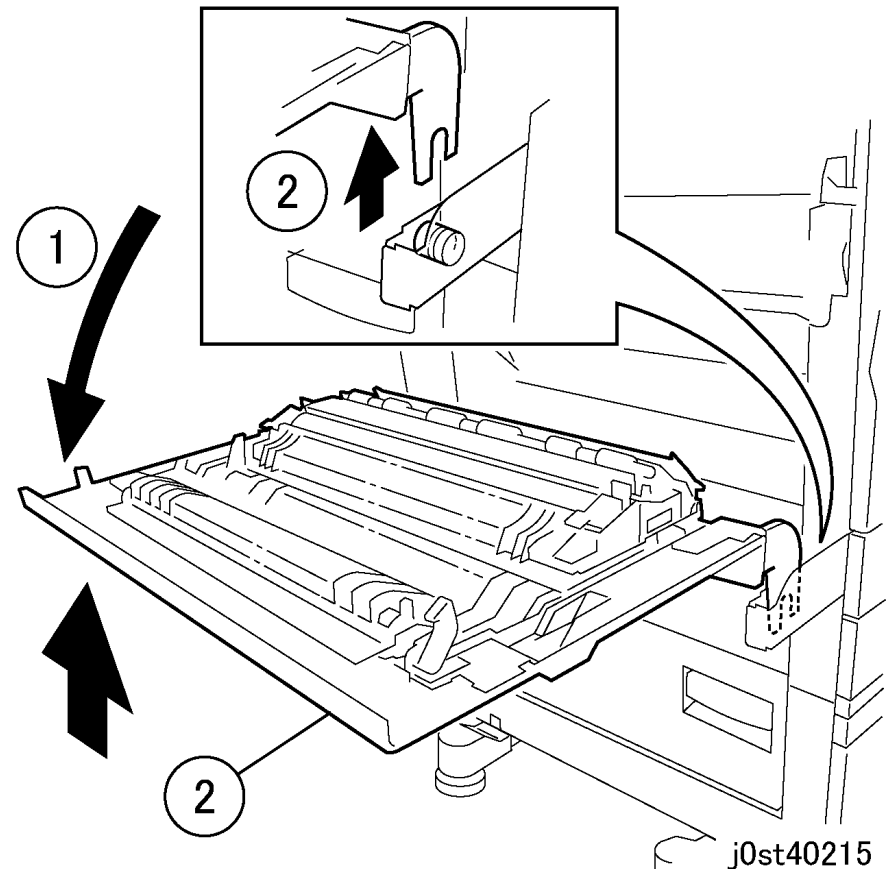

Figure 2 Removing the L/H Upper Cover Unit
4. Remove the L/H Upper Cover Unit. (Figure 2)